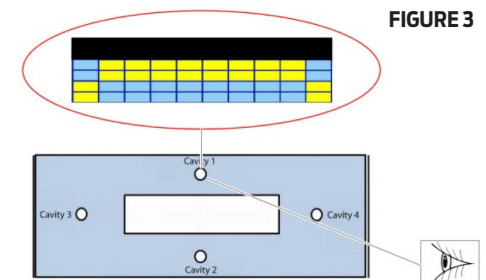

FIGURE 3
8. Adjust the alignment grid, using the UP/DOWN/OK button on the steering wheel, while viewing the grid through Cavity 1 in the HUD eye box until the top two grid lines are not seen (**Figure 3**).